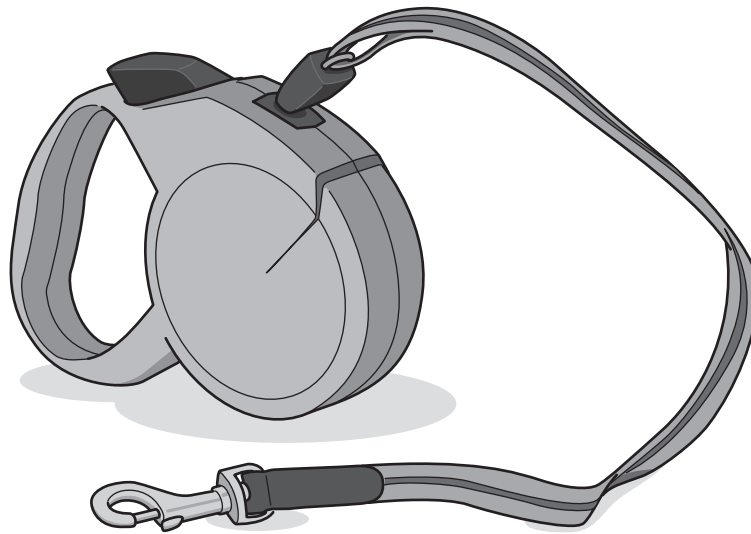

Fig. 3
16 Fig. 3 shows a retractable dog lead that can be extended to 10 m.
(a) Identify **three** design features of the retractable dog lead in Fig. 3.
- (d) The manufacturer wishes to improve the dog lead in Fig. 3 so that it includes a night light and dog bag dispenser.